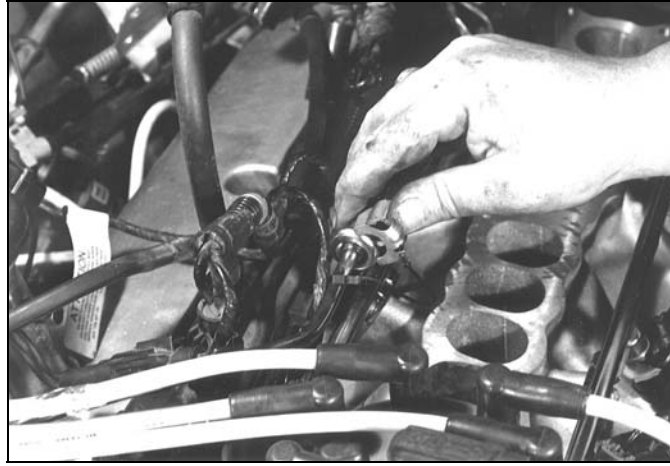

Figure 8
16. Reconnect the fuel lines, ensuring the connections snap together tightly. Reattach the safety clamps to the lines. Double check to ensure all lines are properly connected and secure. See Figure 8.